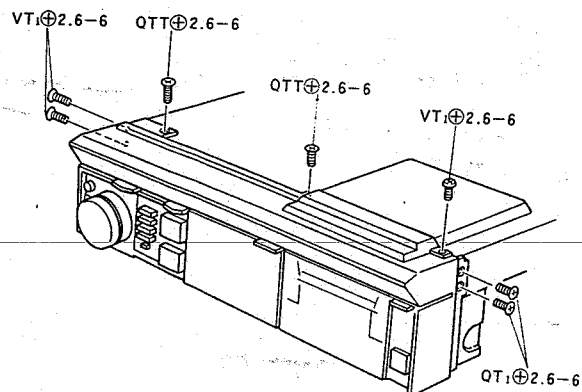

Fig. 6
- 3) Remove 7 screws. (See figure 6)